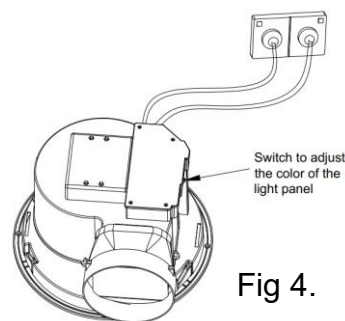

Fig 4.
13. **There is a switch to adjust the colour temperature on back of the fan panel. Choose the colour temperature according to your personal preference. (Fig 4)**